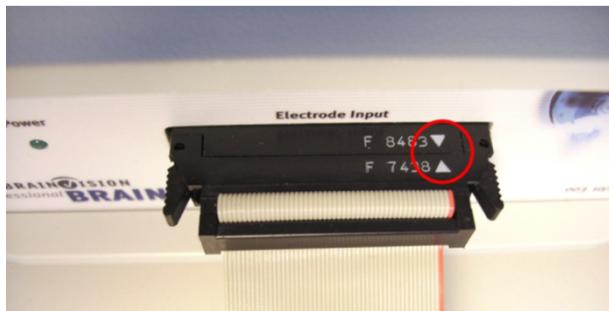

Figure 5: Arrows on the plugs of the connection cables and on the amplifier socket indicating the orientation in which the two should be connected.
- c. Furthermore, the connectors on the ribbon cables feature arrows indicating the orientation in which the connector must be plugged into the socket. Ensure that the arrow on the plug is aligned with the arrow on the 'Electrode Input' socket (see Figure 5).